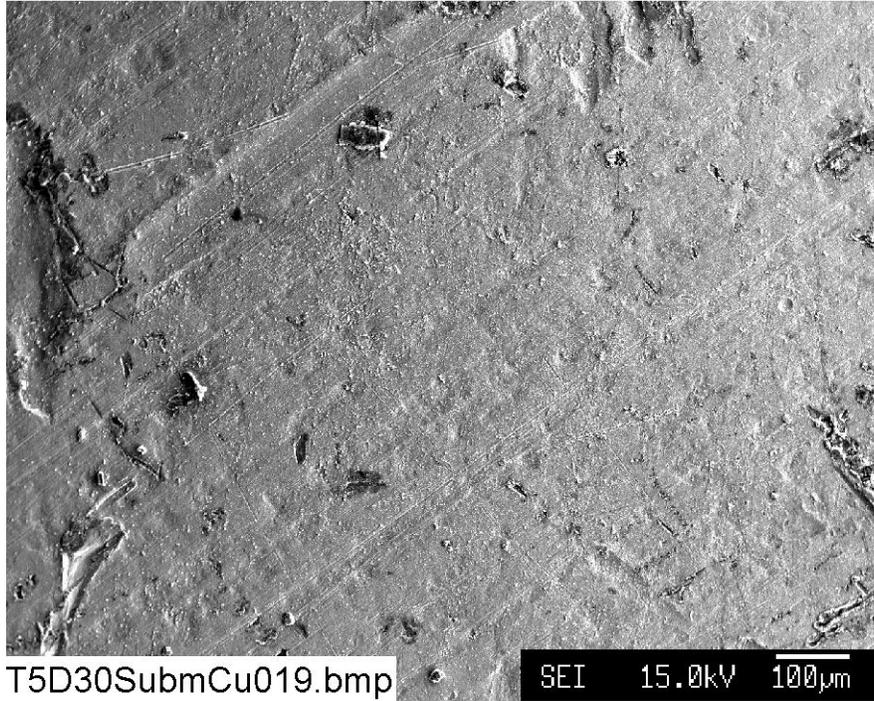

Figure E2-5. SEM image magnified 100 times for a Test #5, Day-30 submerged copper coupon sample. (T5D30SubmCu019.bmp)
- Figure E2-5. SEM image magnified 100 times for a Test #5, Day-30 submerged copper coupon sample. (T5D30SubmCu019.bmp).....E2-10